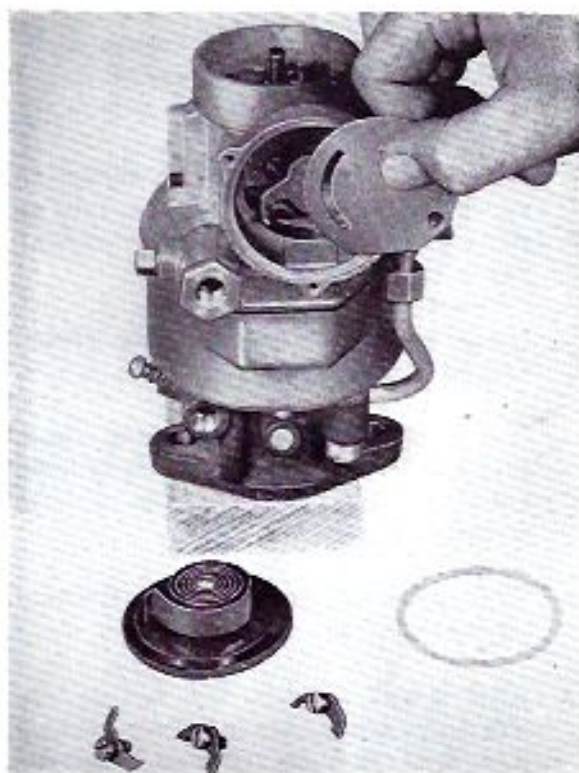

Figure 11
12. Install choke valve on choke shaft with letters "RP" facing upward. Center choke valve before tightening screws. Place baffle plate and choke cover gasket into position as shown in Figure 11, and install choke coil and cover. Rotate cover clockwise until index marks on cover and housing are aligned.